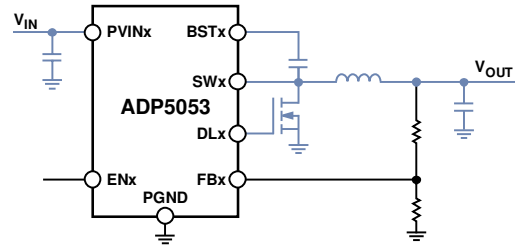

Figure 50. Typical Circuit with High Current Traces Shown in Blue
- Ensure that the high current loop traces are as short and wide as possible. Figure 50 shows the high current path.